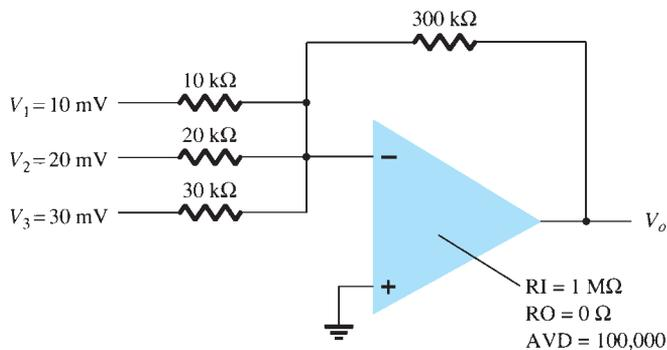

FIG. 11.60
*18. Use Design Center to draw the schematic of Fig. 11.60 and determine V_o .